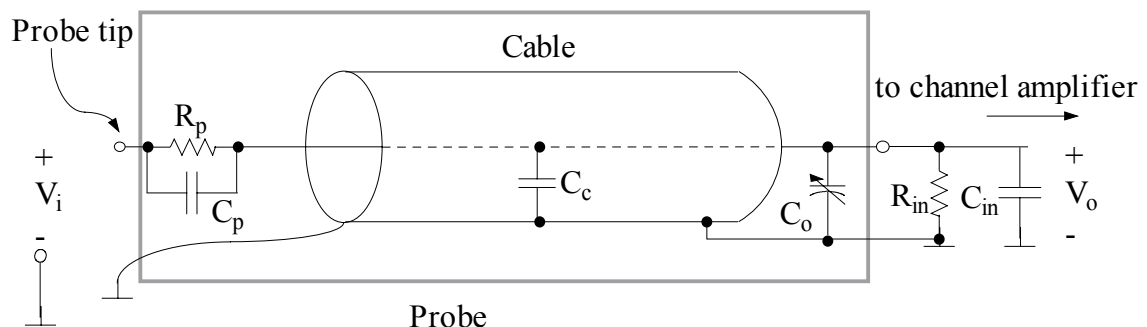

Figure 3.34 Probe model and probe compensation
3. Compensate both of your oscilloscope probes. First consider the equivalent circuit of scope front end. The oscilloscope channel amplifier and a typical probe can be modeled as shown in Figure 3.34. The input impedance of the channel amplifier is always written on the oscilloscope, just next to the channel amplifier probe connector. Read the values of  $R_{in}$  and  $C_{in}$ .